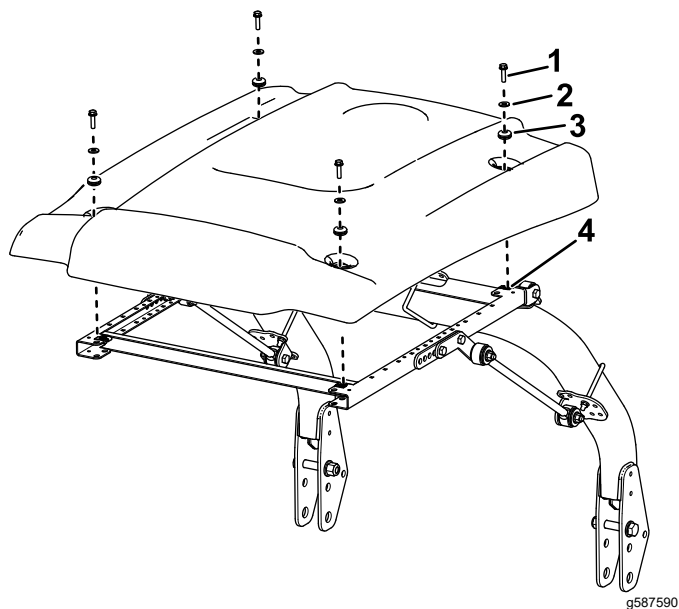

Figure 41
15. While aligning the mounting holes, position the sunshade onto the frame as shown in Figure 41.
16. Loosely mount each corner of the sunshade to the frame with a flange-head bolt (5/16 x 1 inch), a small washer, and a grommet (Figure 41).